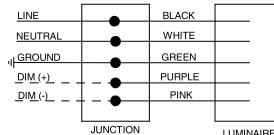

FIGURE 1
There are 5 wires coming out of this fixture: (Wiring shown on FIGURE 1)
(2) Connect the wires as shown in the figure. (FIGURE 1)